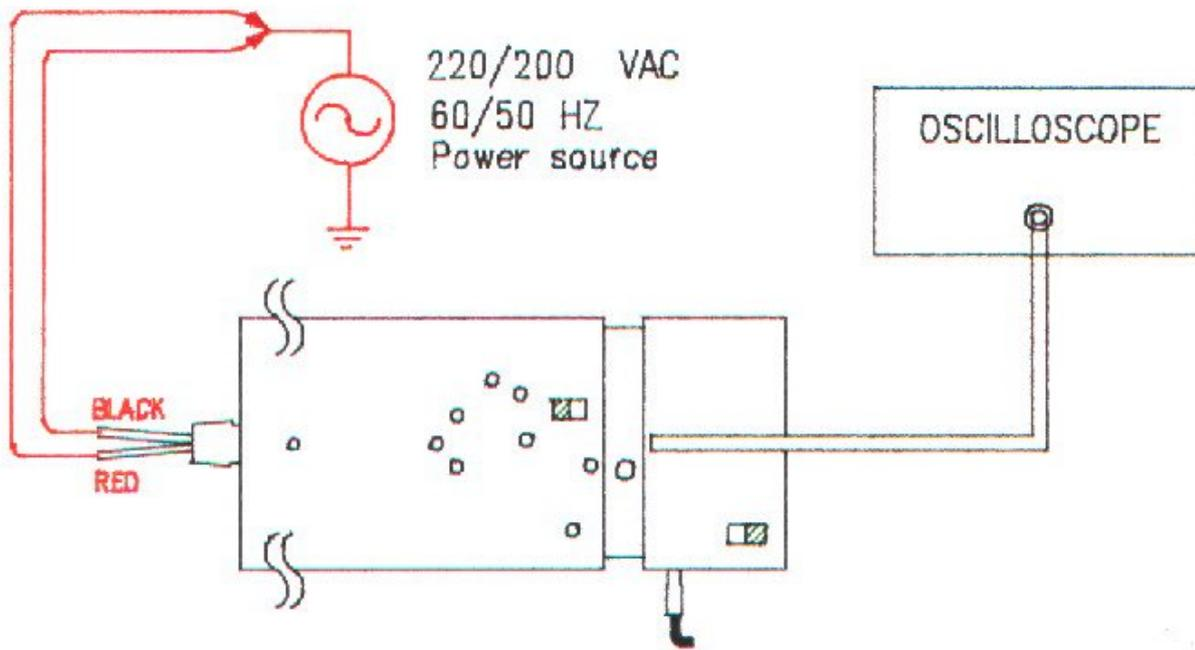

Fig. 7
- a. Referring to Fig. 7, connect output BNC to an oscilloscope has good grounding.